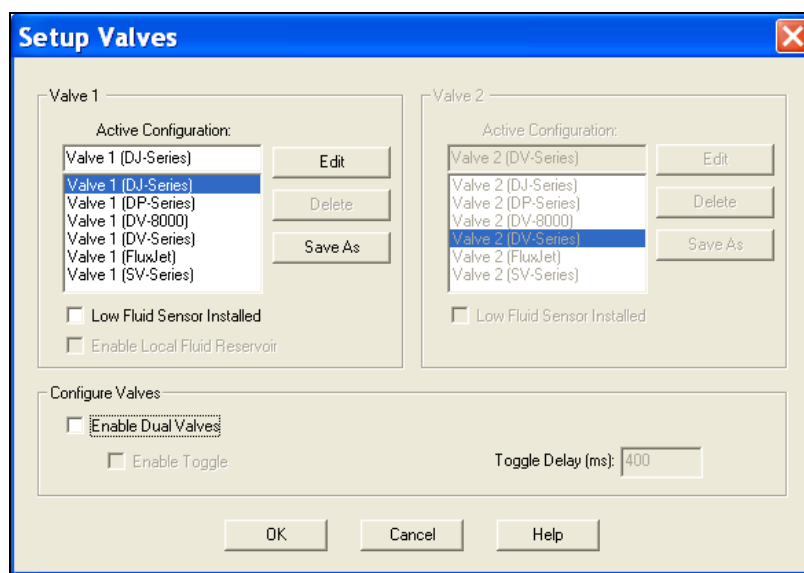

Figure 2-1 Setup Valves
- ▶ The Setup Valves window opens (Figure 2-1).